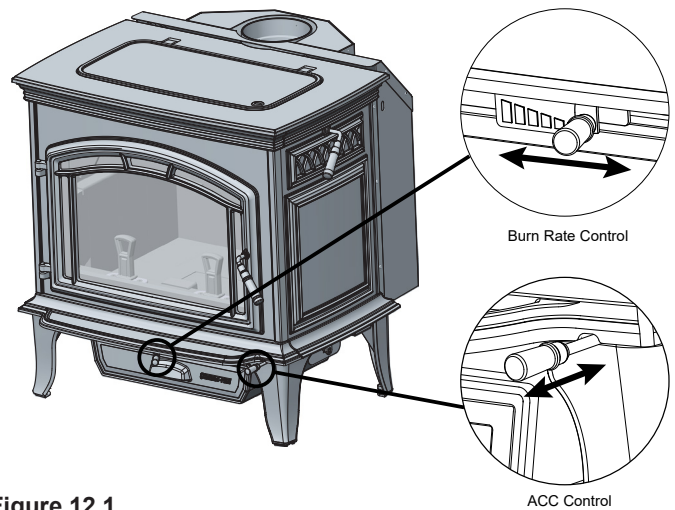

Figure 12.1
1. This appliance has a timer system (ACC) that operates the appliance at its maximum efficiency removing any guess work for the homeowner. Follow the instructions below for each burn rate for the Start-Up Air Control and Burn Rate Air Control (**Figure 12.1**).